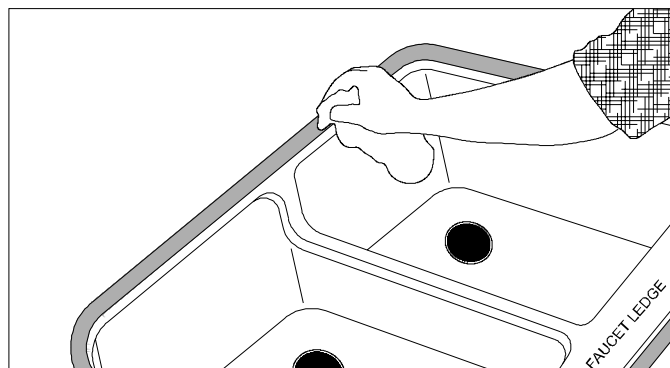

Figure 4A
- Clean sink flange and/or sink ring with denatured alcohol and a clean white cloth. (FIG. 4A & 4B)